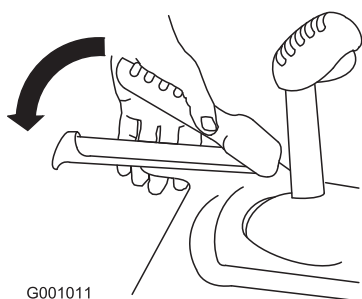

Figure 34
2. Engage the traction lever and hold it in place (Figure 34).